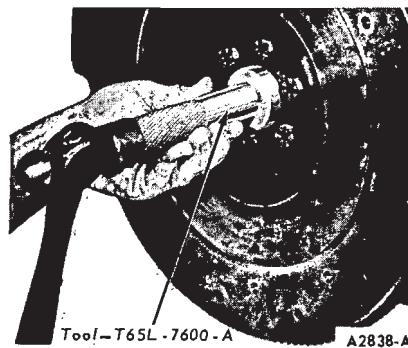

FIG. 37—Installing Clutch Pilot Service Bearing
2. Using tool T65L-7600-A, install the pilot service bearing (Fig. 37).